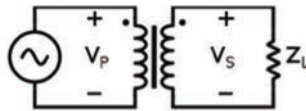

Figure 3.6 A transformer circuit
- Simplified transformer circuits: Figure 3.6 shows a simplified transformer circuit.